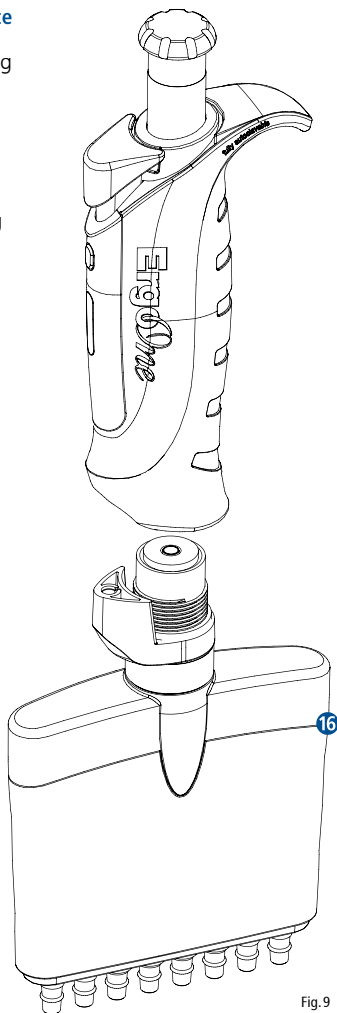

Fig.9
- Fully unscrew the lower housing **16** by turning clockwise (Fig. 9).